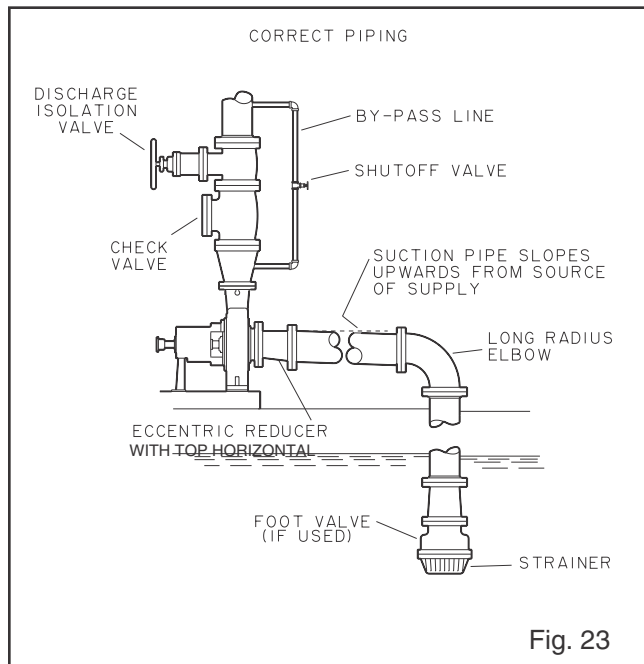

Fig. 23
- Reducers should be eccentric at the pump suction flange with sloping side down and horizontal side at the top (Figs. 23, 24, 25).